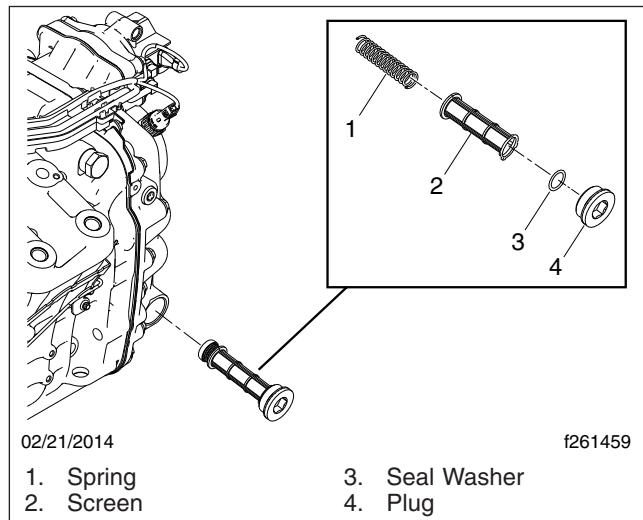

Fig. 10, Oil Pump Screen, Detroit Automated Transmissions
4. Remove the oil pump screen and check it for debris. See Fig. 10. Clean the screen, if needed, then install it with a new seal washer. Tighten the plug 90 lbf-ft (120 N·m).